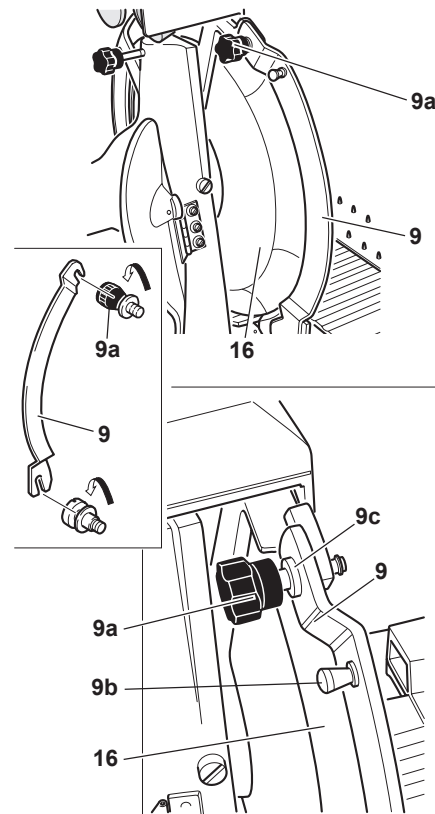

Figure 10-4
- Loosen, but do not remove the top and bottom knobs (9a) on the knife guard (9) (Figure 10-4).
- Use the knife guard thumb screw (9b) to lift the knife guard (9) up and to the left of the top and bottom knife guard spacers (9c).
- Tighten the top and bottom knobs (9a) on the knife guard (9).